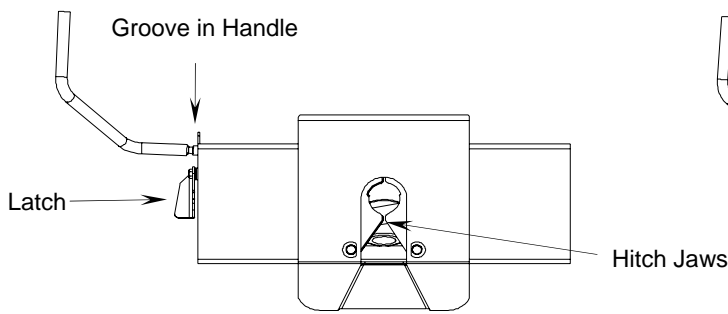

Fig. 17
6. Rotate latch for hitch handle toward trailer and free of groove in handle. (Fig. 17 on next page)